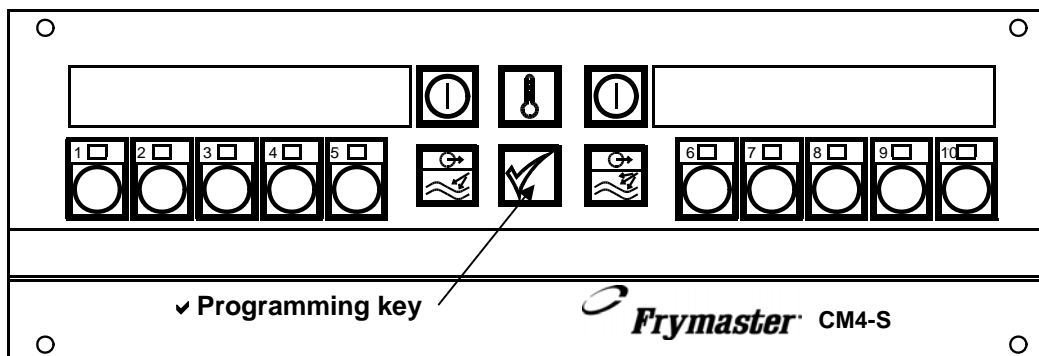

Figure 1: CM4-S Computer with tactile switches.
1. With the display showing OFF, press the ✓ programming key. See Figure 1 above.
1. With the display showing OFF. Press the ✓ programming key. See Figure1.
3. Press the ✓ programming button. See Figure 1.
8. Press the programming key on the computer (See Figure 1).